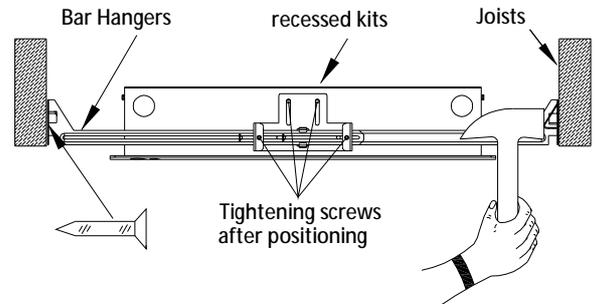

Fig 4
1. Position recessed kits between joists. Make sure bar hangers to be hanged in the correct position. Position recessed kits temporarily by hammering "nail-in" tabs on bar hangers, then secure permanently with nails. Bar hangers should be level with bottom of joists. Adjust height of recessed kits vertically using adjusting slots and then tightening all screws on adjusting slots and bar hanger bracket to secure adjusting bracket and bar hangers.(see Fig 4)